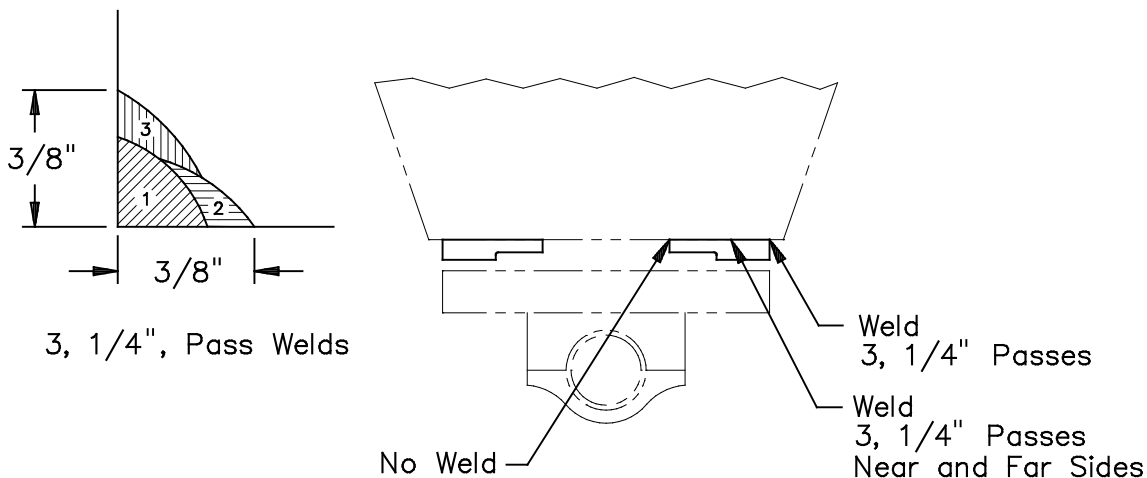

FIG. 123-B
5. Remove the 1-1/8" end cap screws, roll the trailer suspension away, and complete welding of the bearing pads. **Note:** All welding and welding procedures must meet the American Welding Society specifications. Bearing pads must be welded securely to the trailer support plates on the three sides as shown in FIG. 123-B. **Caution! Do not exceed 140 degrees Fahrenheit (60 C) on the load cell. Arcing on the body of the load cell voids the manufacturer's warranty and may seriously damage the load cell's structural integrity. The load cell must NOT be installed if this occurs.**